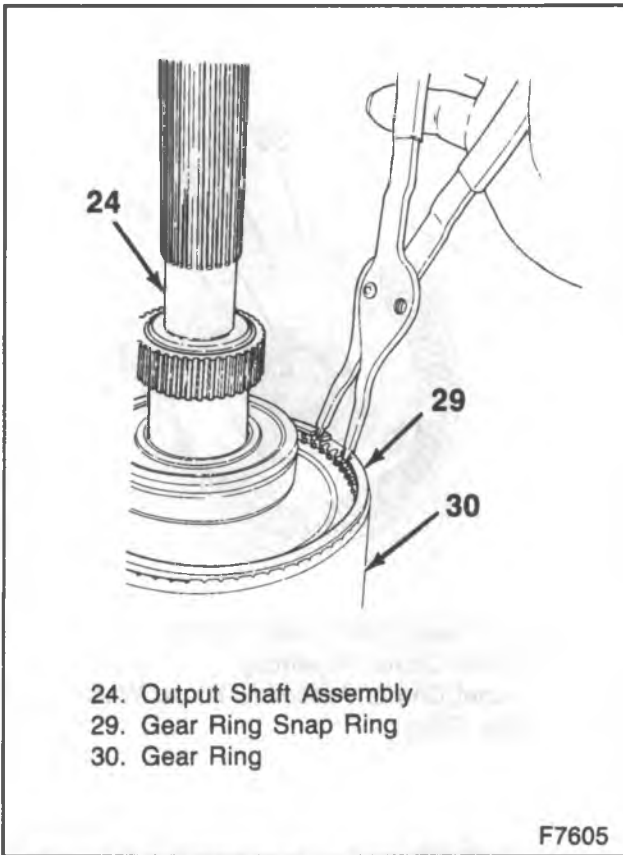
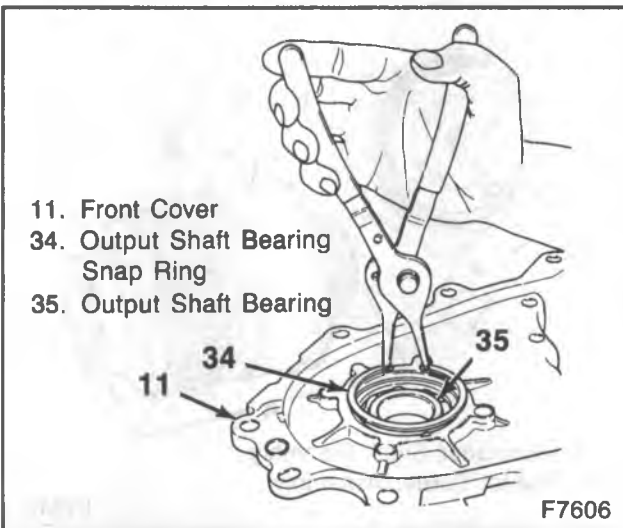

Figure 13—Installing the Gear Ring Snap Ring
Figure 14—Installing the Output Shaft Bearing Snap Ring
4. Gear ring snap ring (29) to the gear ring (30) (Figure 13).
5. Output shaft bearing (35) to the front cover (11).
6. Output shaft bearing snap ring (34) to the front cover (11) (Figure 14).